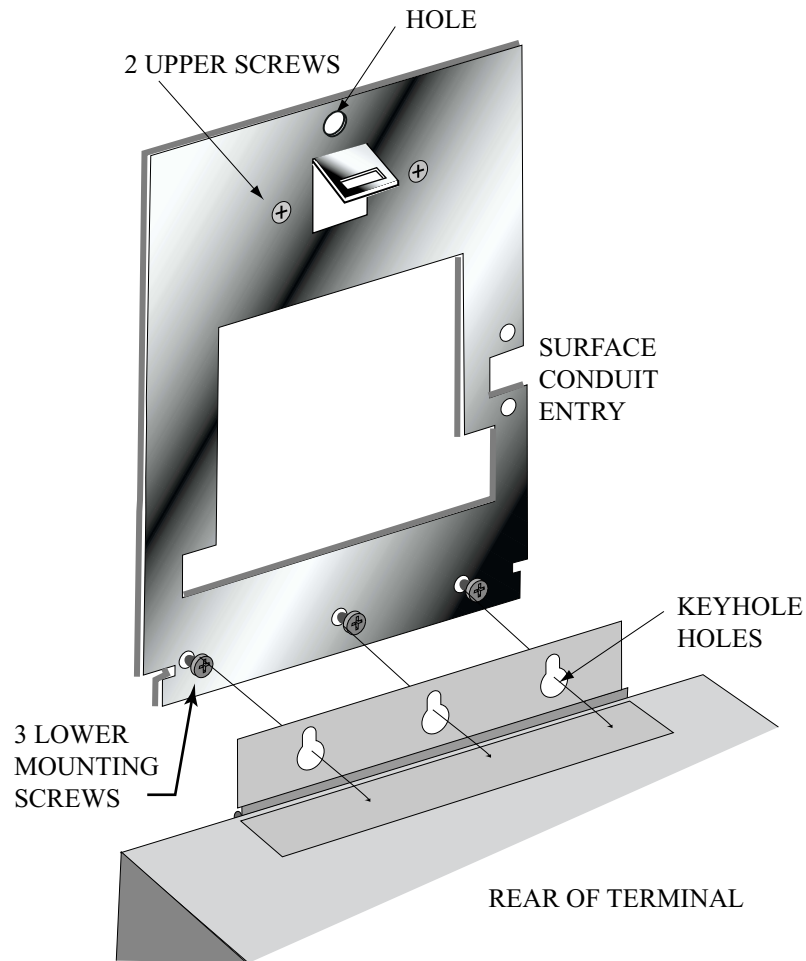

Figure 3-2: Attaching the Hand Reader to the Wall Plate
3. At the base of the Hand Reader is a piano hinge with three keyhole shaped slots that correspond with the three lower mounting screws. Align and hang the Hand Reader from the three lower mounting screws (see Figure 3-2).